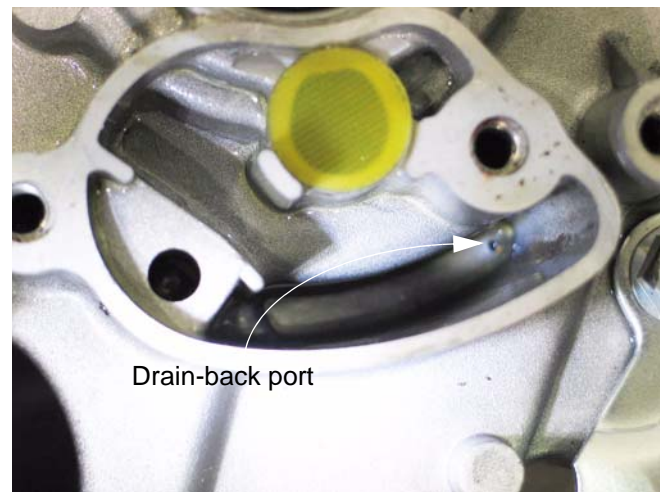

Figure 5.12
6. Inspect the oil drain-back port. Make sure it will allow oil to drain back into the engine. See Figure 5.12.